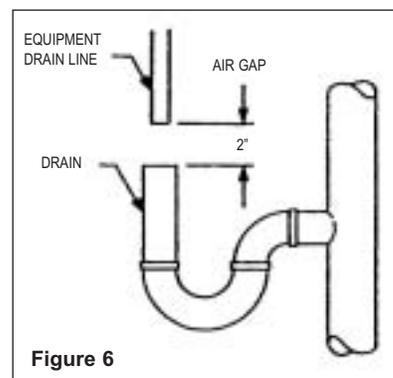

Figure 6
4. Solder or solvent weld plumbing. Do not apply heat to any fitting connected to control valve as damage may result to internal parts. Check to be certain water supply pipe is connected to control valve inlet fitting, and pipe connected to control valve outlet fitting is in direction of house service (see Figure 6).
6. Position drain hose over drain and secure firmly. To prevent back-siphoning of sewer water, provide an air gap to code or equivalent. (Figure 6) Do not raise drain hose more than 10 ft. above floor.